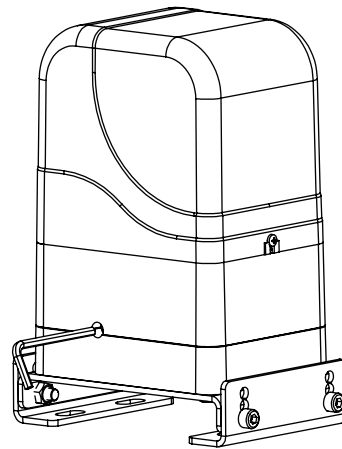

Fig 8 Releasing arm in torsion, wriggle 90 degrees gate operator will be in releasing state
1. Using the supplied key unlock manual override and pull out manual override lever (see Fig 8) then manually close the gate.